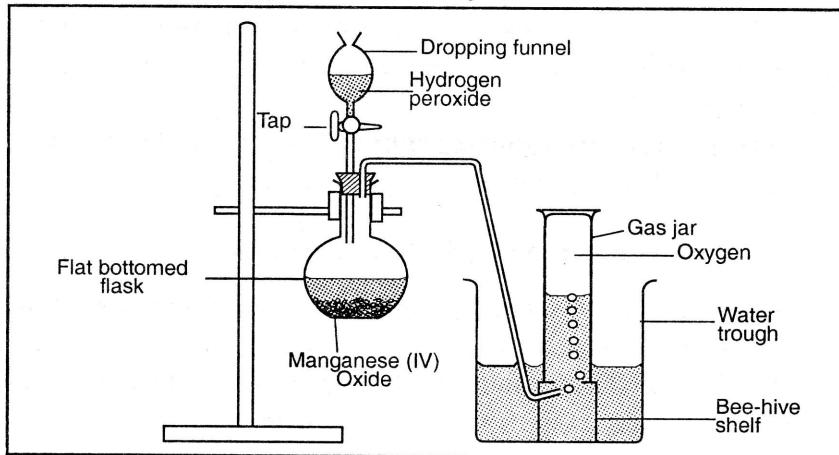

Fig. 4.9: Laboratory preparation of oxygen
Half-fill a trough with water. Fill a gas jar with tap water and cover it with a gas jar cover slip. Invert the gas jar under water and remove the cover slip. Put about 2 g of Manganese (IV) oxide into a flat-bottomed flask. Add hydrogen peroxide from a thistle funnel drop-wise into the flask. Let the few bubbles escape then collect the gas as shown in figure 4.9.